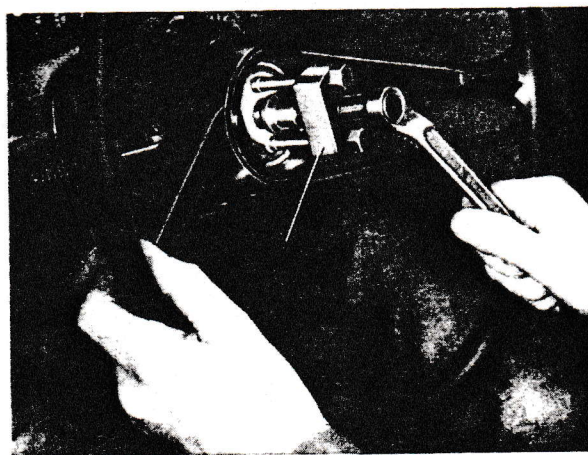

Fig. 27. Removing the steering wheel
3. **Check that the direction indicator switch is in the neutral position.** Pull off the steering wheel with puller SVO 2325, see Fig. 27.